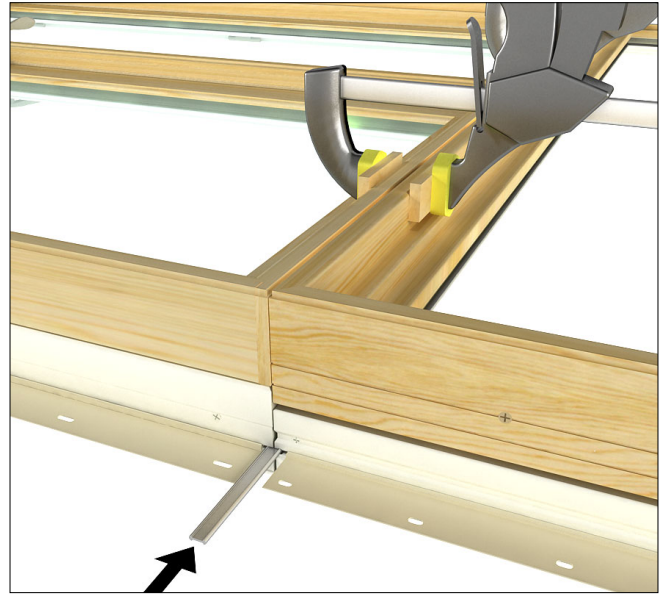

Figure 8
2. Position rectangular unit on head jamb of door. Check to be sure that both ends of the transom sill are flush with door head jamb. Apply clamps to interior side at each end of head jamb and sill to prevent movement. Use scrap pieces of wood to prevent marring of wood surface. Make sure that nailing fin/drip cap kerfs line up on both ends. See figure 8. Drill the outer edges of mull kerf located at one side at head jamb of door and sill of transom with a 3/16" drill bit. This will help facilitate installation of mulling pin. Be sure to clean filings from the drilled area prior to mull pin installation.
3. Drive mull pin in the full length of sill/head jamb (use hammer if necessary) ensuring it is recessed 1/4" (6) to allow for sealant application later. See figure 8.